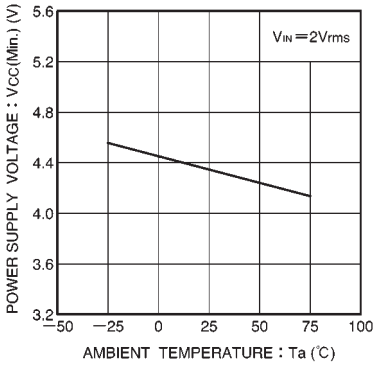

Fig. 6 16th point lighting limit power supply voltage vs. ambient temperature
(1) Adjust the potentiometers VR1 and VR2 (connected to pins 1 and 3) to adjust the 0dB input level and the dispersion of ch1 and ch2.
(2) The temperature characteristic for the lighting limit for the 16th LED is shown in Fig. 6.